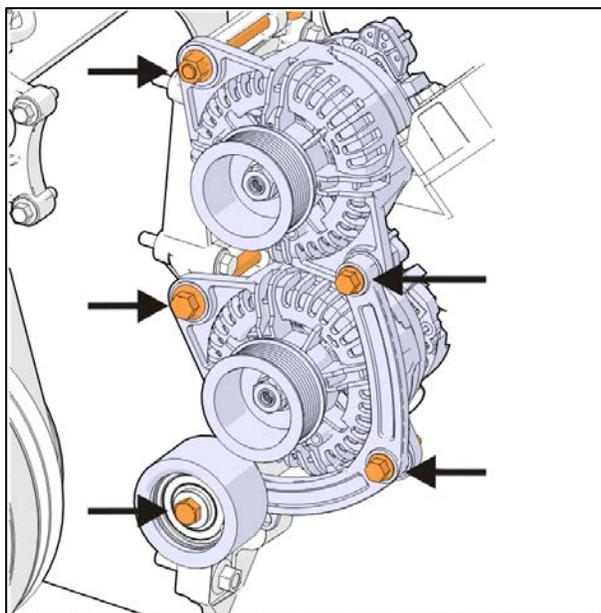

FIGURE 4
2. Remove the existing alternators. To do so, unscrew the four (4) mounting bolts identified on Figure 4. Discard bolts and alternators.